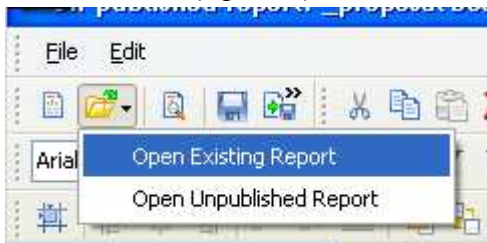

Figure 39
- Via main Toolbar (Figure 39):